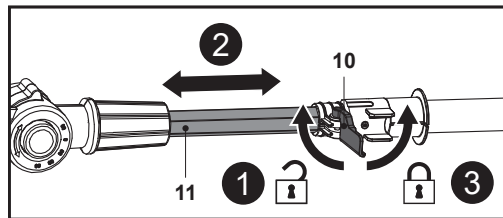

Fig. 24
1. Loosen the locking lever (10) (Fig. 24, step 1).
2. Adjust to the required length by pulling out or pushing in the pole extension (11) (Fig. 24, step 2).
3. Secure the position of pole extension (11) by fastening the locking lever (10) back to its original position (Fig. 24, step 3).